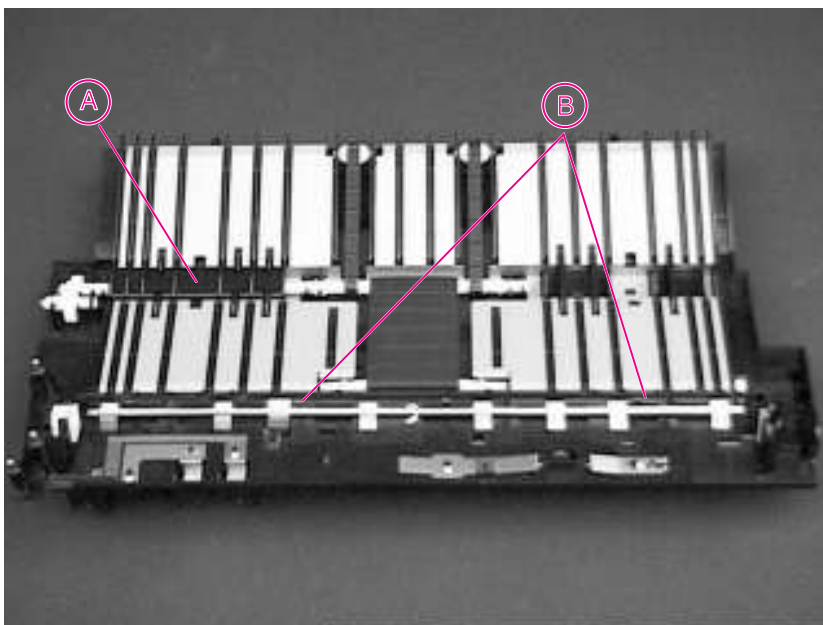

Figure 6-41 Paper Feed Belt Assembly (removed)
- 4 Remove the plastic guide (A) in Figure 6-41 and replace the belts if necessary. The guide snaps back in after belt replacement.